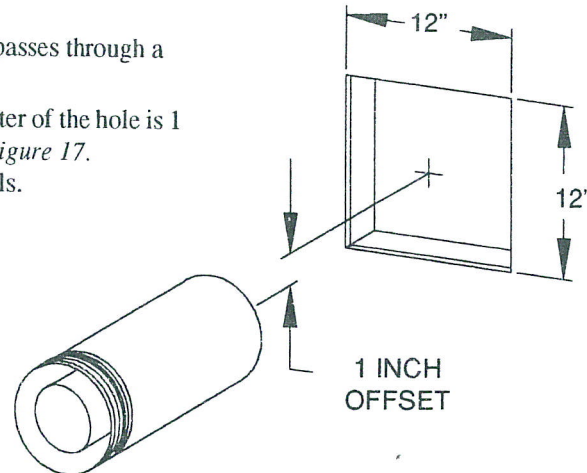

Figure 17: Wall Firestop Hole Location
- Cut a 12 inch X 12 inch hole through the wall. The center of the hole is 1 inch above the centerline of the horizontal pipe. See Figure 17.